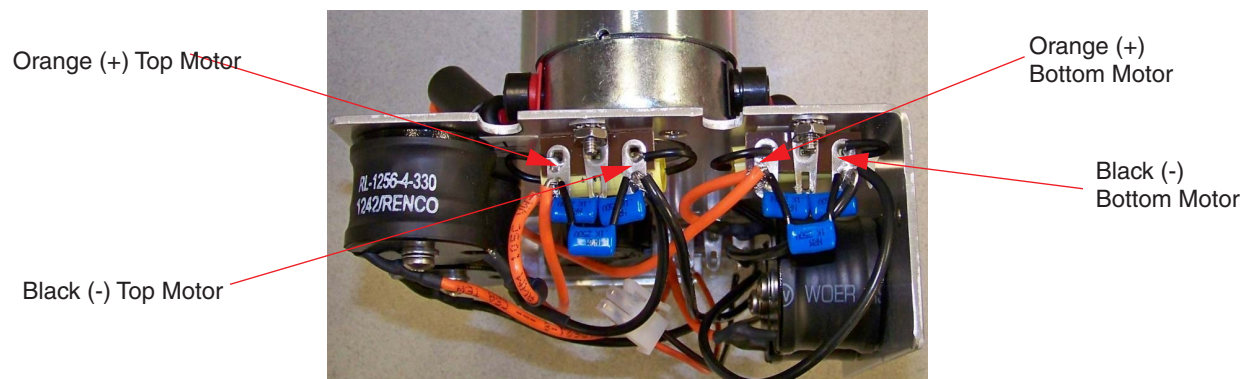

Figure 9-27 Wire connections
9. The wire connections from the motors to the terminal strips are shown in Figure 9-27.